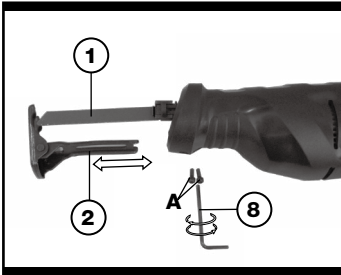

Fig. 3
If you need to reduce the cutting capacity of your tool (depth of cut), the pivoting foot plate (2) may be adjusted as follows. Loosen the two securing screws (A) on the underside of the front housing with the spanner (8) provided. Slide the pivoting blade foot (2) to the required position. Tighten both screws (A) and check that the blade foot (2) is firmly latched. (See Fig.3)